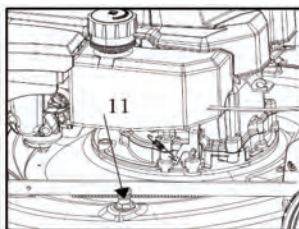

Fig. 26
2. Carry out the water supply deck cleaning in a flat area with good water drainage. Connect a garden hose to the water inlet (11) on the mower deck (Fig. 26).
4. Pull the brake lever (3) and hold it against the upper handle bar (2), then pull the recoil starter handle (28) lightly to start the engine and cutting blade (30).
5. Stop the engine by releasing the brake lever (3) when no further dirty water or debris can be seen exiting the underside of the product.